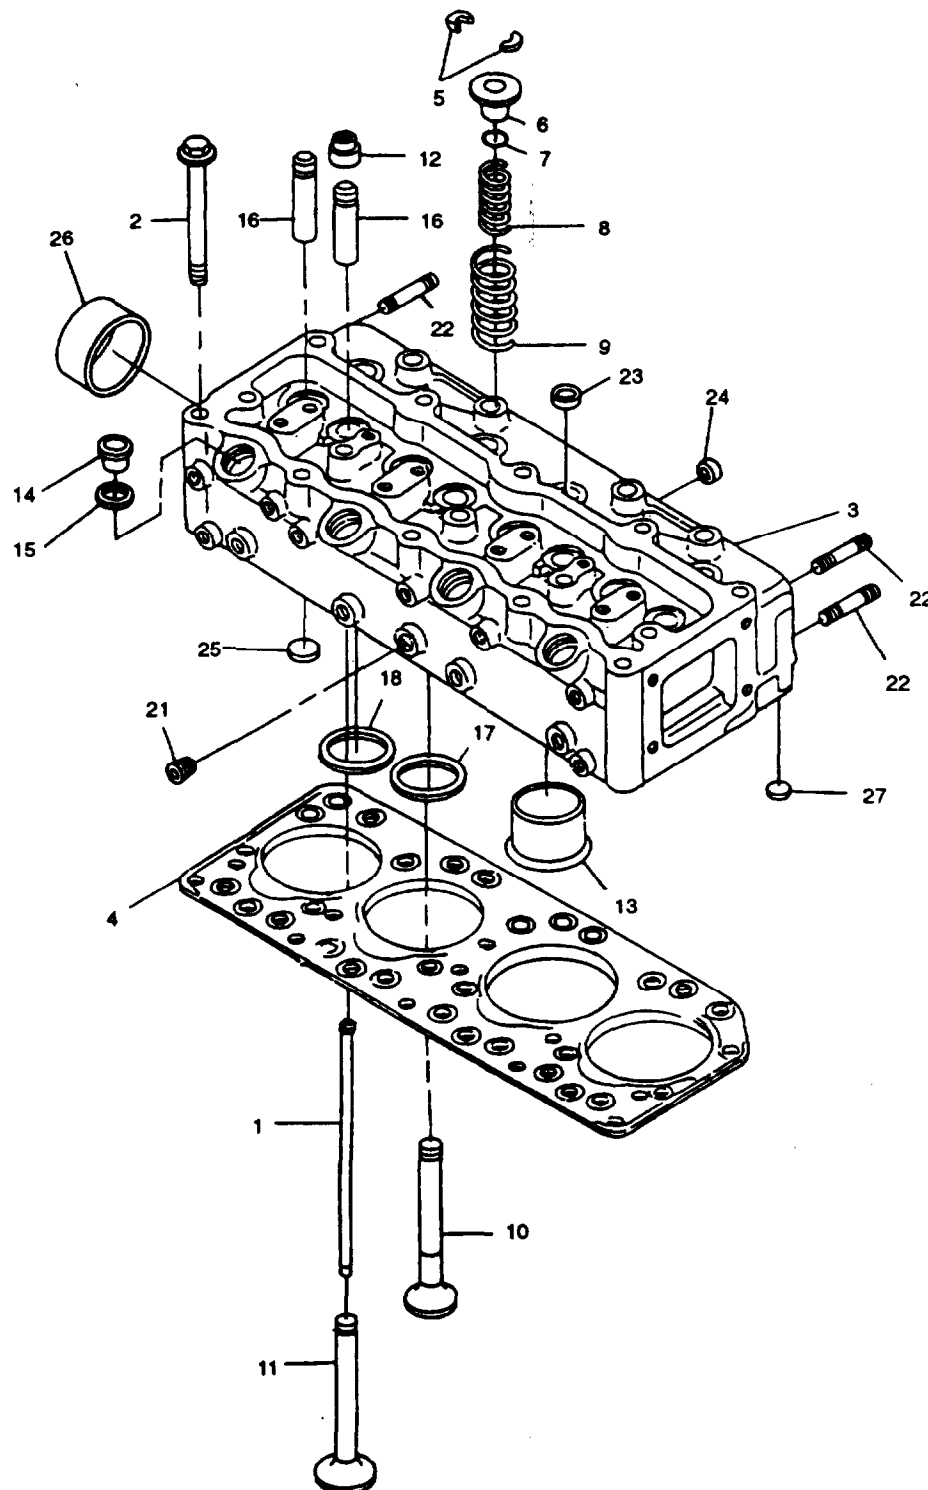
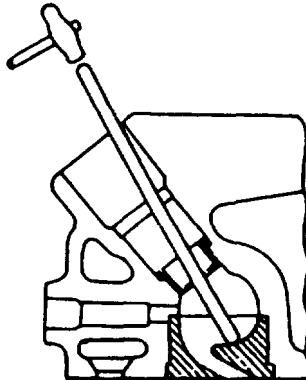

FIGURE 3-60. Cylinder Head Assembly
FIGURE 3-62. Hot Plug Removal
- g. Remove eight pushrods (1, FIGURE 3-60).
- i. After all nineteen bolts (2, FIGURE 3-60) have been loosened, remove them and lift cylinder head assembly (3) from engine block. Remove and discard head gasket (4).
Do not allow valves (10 and 11, FIGURE 3-60) to fall from bottom of cylinder head.
- f. Remove eight valve seals (12) from valve guides (16).
- g. Remove hot plugs (13) as follows:
- (1) Refer to FIGURE 3-62 and insert a 0.12 to 0.20 in. (3.0 to 5.0 mm) diameter brass bar into fuel injector fitting until it makes contact with hot plug (13, FIGURE 3-60).
- (2) Lightly tap bar with a hammer to drive hot plug free.